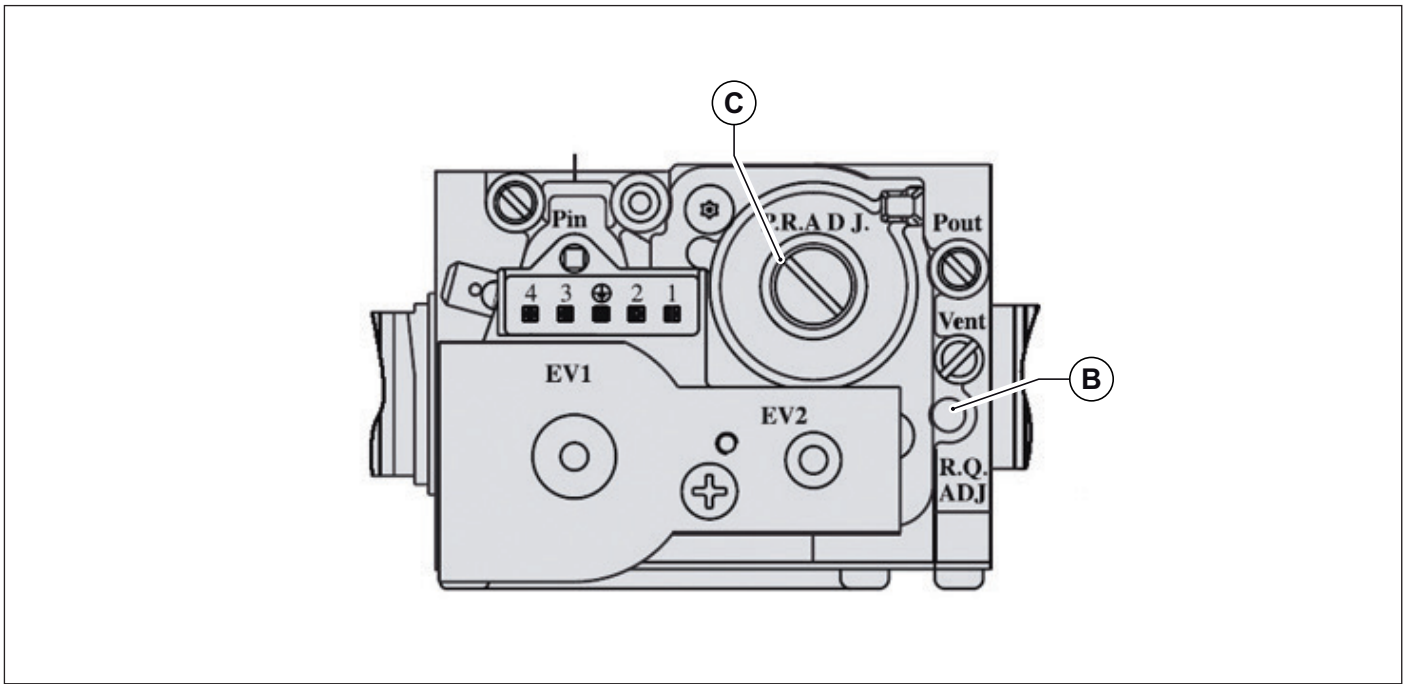

Fig. 30 Adjusting CO2 value
- Set flue gas CO2 content by turning the ratio adjuster **B** (see Fig. 30 Adjusting CO2 value) and ensure that reading falls within the limits of Tab. 14 Flue CO2 content. Let boiler flue cleaning function on and continue with the next point "Minimum heating output adjustment".
- Set flue gas CO2 content by turning the offset control **C** (see Fig. 30 Adjusting CO2 value) and ensure that reading falls within the limits of Tab. 14 Flue CO2 content.